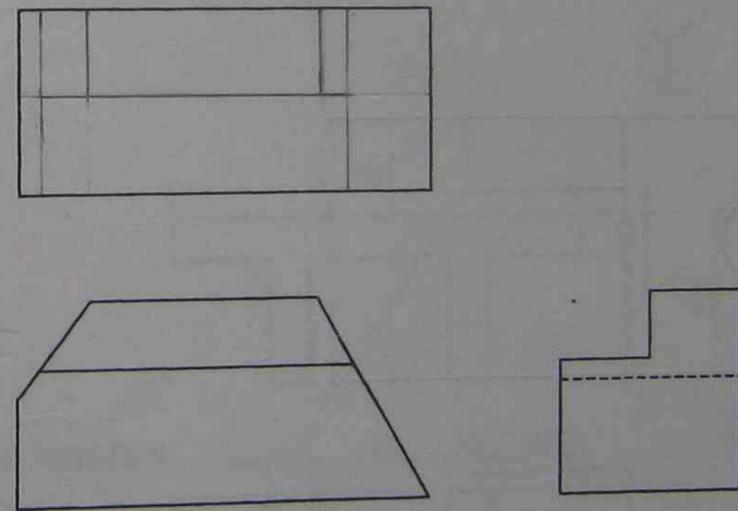

Figure 5
3. Using projection techniques, add the missing lines to the top view of the third angle projection drawing of figure 5 below.